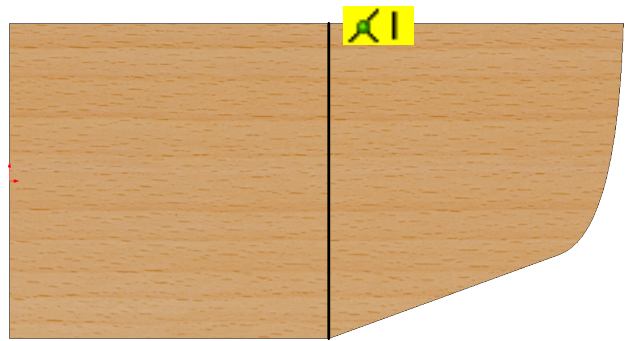

Fig. 13
Step 4. Draw vertical line up from corner of sheet metal Wing, Fig. 13. Be sure cursor changes to **Coincident/Vertical**  shape to confirm vertical line (relation).